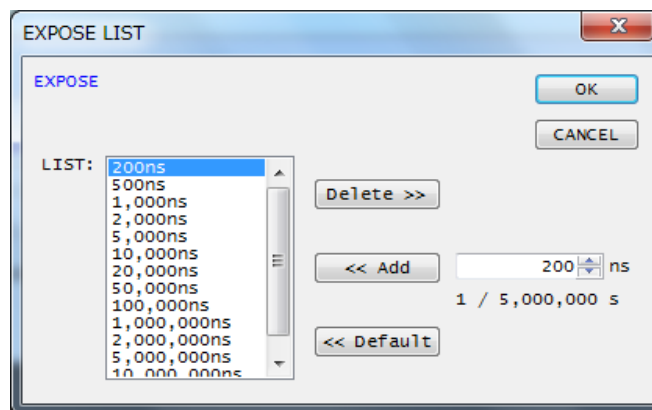

Fig. 5-12 Window for Editing the Recording Exposure Time Selection List
In addition, clicking the  icon displays a window for editing the recording exposure time selection list (Fig. 5-12). This list of selectable recording exposure time settings can be edited.
- 1.** Display the window for editing the exposure time selection list (Fig. 5-12).
**1.** Display the window for editing the exposure time selection list (Fig. 5-12).